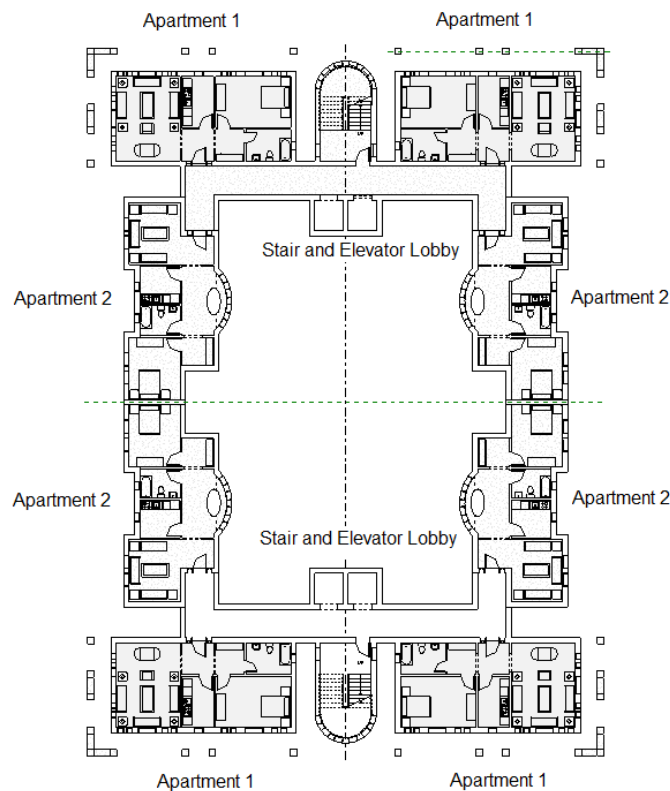

Figure 16-68 The sketch plan showing the cluster of apartments
In this tutorial, you will generate the Apartment Complex project by copying and pasting the elements of the *Elevator and Stair Lobby* and *Apartment 2* projects into the *Apartment* project. Edit them to attach to the *Apartment* project. Group them into an apartment cluster, as shown in Figure 16-68. Save the project file as *Apartment Cluster.rvt*. Use all latest project files for this tutorial.
8. Now, choose **First Floor** from the **Floor Plans** head in the **Project Browser** and then select the **Main Model** option from the **Active Design Option** drop-down list in the **Design Options** panel of the **Manage** tab. Next, select all elements of the project and mirror them along the horizontal axis. The horizontal axis should be defined by the wall centerlines of the south walls of the *Apartment 2* project, as shown in the cluster plan of this tutorial, refer to Figure 16-68. Ignore any warning message during the mirroring process. After mirroring the selected elements, choose the **Modify** button from the **Select** panel to clear the current selection.